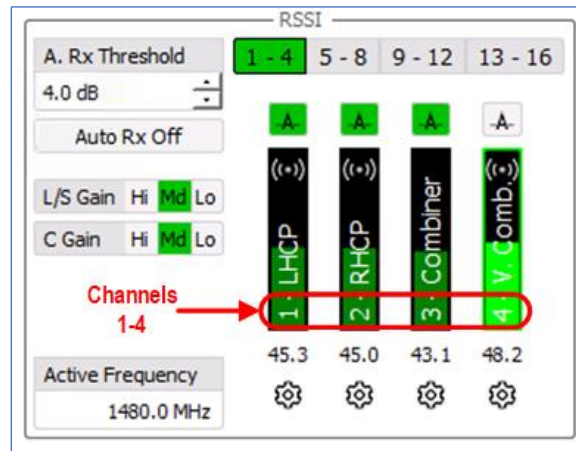

Figure 98: Main Screen, RSSI—Signal Meter Channels
The Active Frequency feature displays the available receiver(s) (up to 16 total available receiver channels). Each button selection displays a group of four receiver channels / AGC signal level meters (1-4), (5-8), (9-12), and (13-16) below the selection buttons. Only four (4) receiver channels can be displayed at a time in the RSSI area. The channel designator is labeled within each meter, as shown in Figure 98.